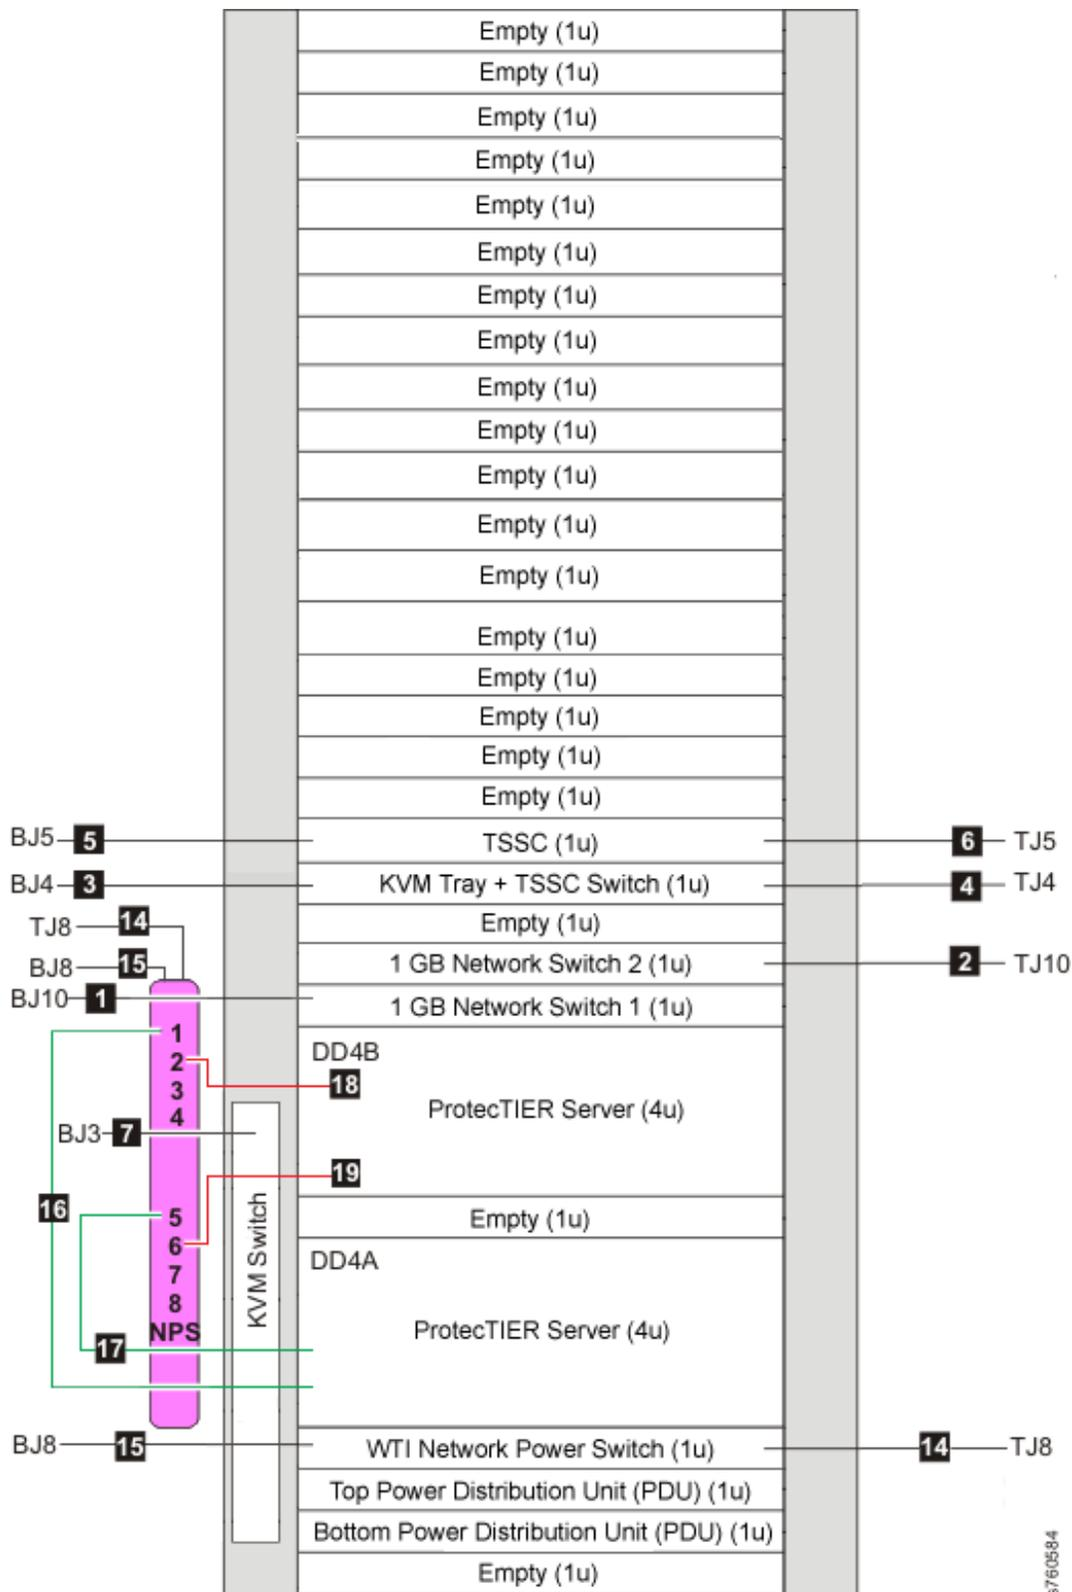

Figure 20. Clustered TS7650G power cabling
Note: The power distribution units (PDUs) may have been preinstalled in the recommended frame in a location different from that shown in the illustration. For consistency and ease when troubleshooting, you may want to relocate the PDUs to match Figure 20 on page 51.
Note: The WTI network power switch is shown in color to the side in Figure 20 on page 51. This is for clarity in showing the connections. Within the frame itself, the WTI switch is also shown in the recommended placement at EIA unit 4.
1. Label and connect the power cords according to Figure 20 on page 51 and Table 17.